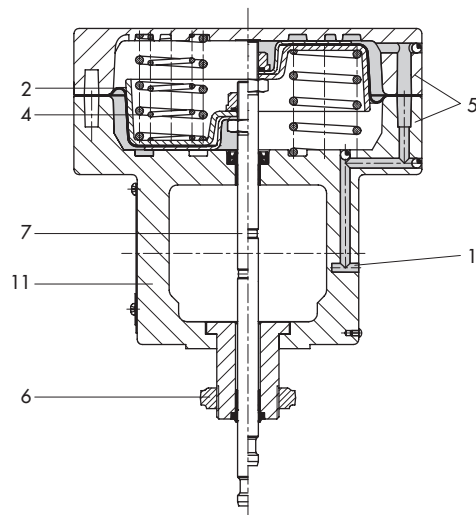

Fig. 8 · Type 3277-5
- **Type 3277-5** · Diaphragm area 120 cm², die-cast aluminum body for direct attachment of accessories (Fig. 8)